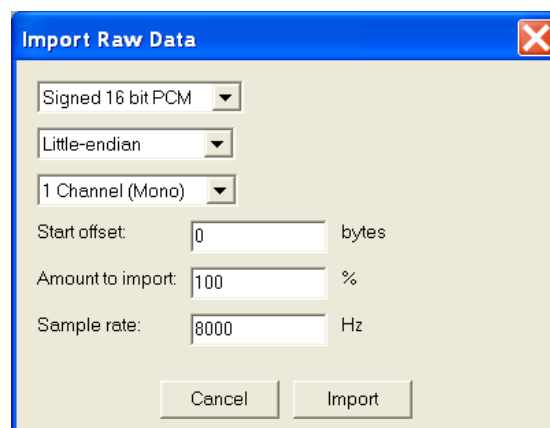

Figure 4 – 'Import Raw Data' Dialog Box
4. Set the options on the 'Import Raw Data' dialog box to the same settings shown in Figure 4. The raw data once imported will be displayed on an audio track within the editor window.